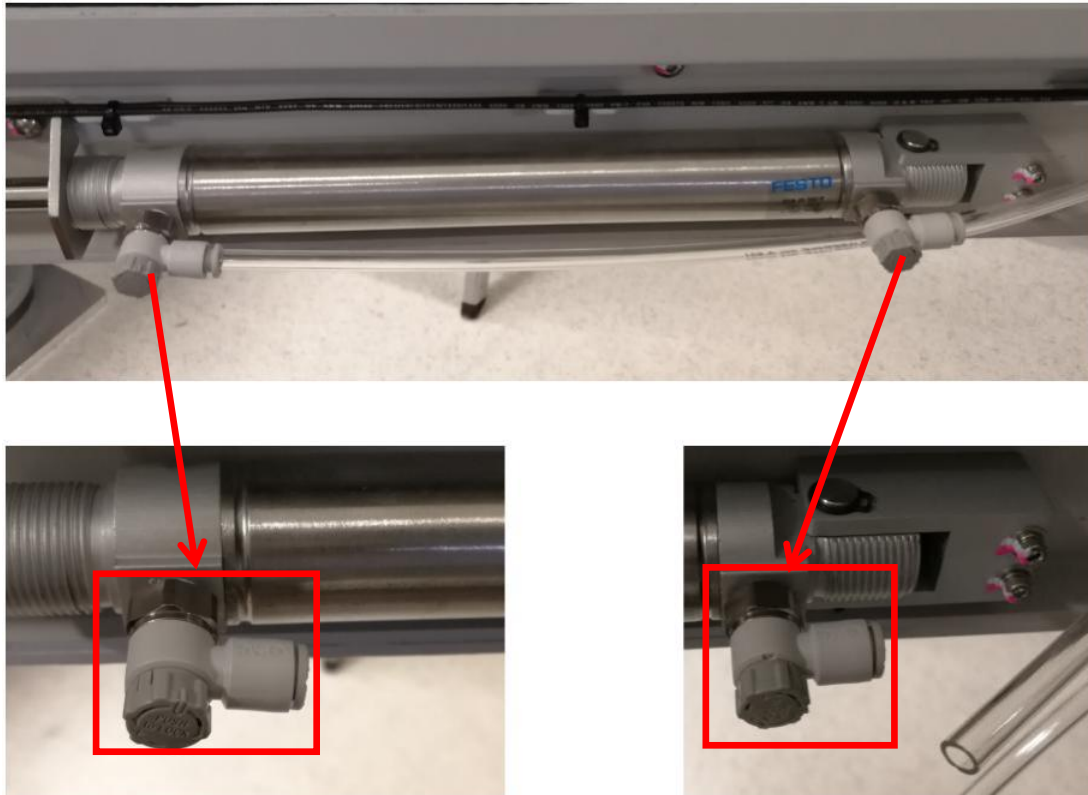

Figure 19
23. Assemble 2 x Outer Barrier Speed Controllers as Figure 19